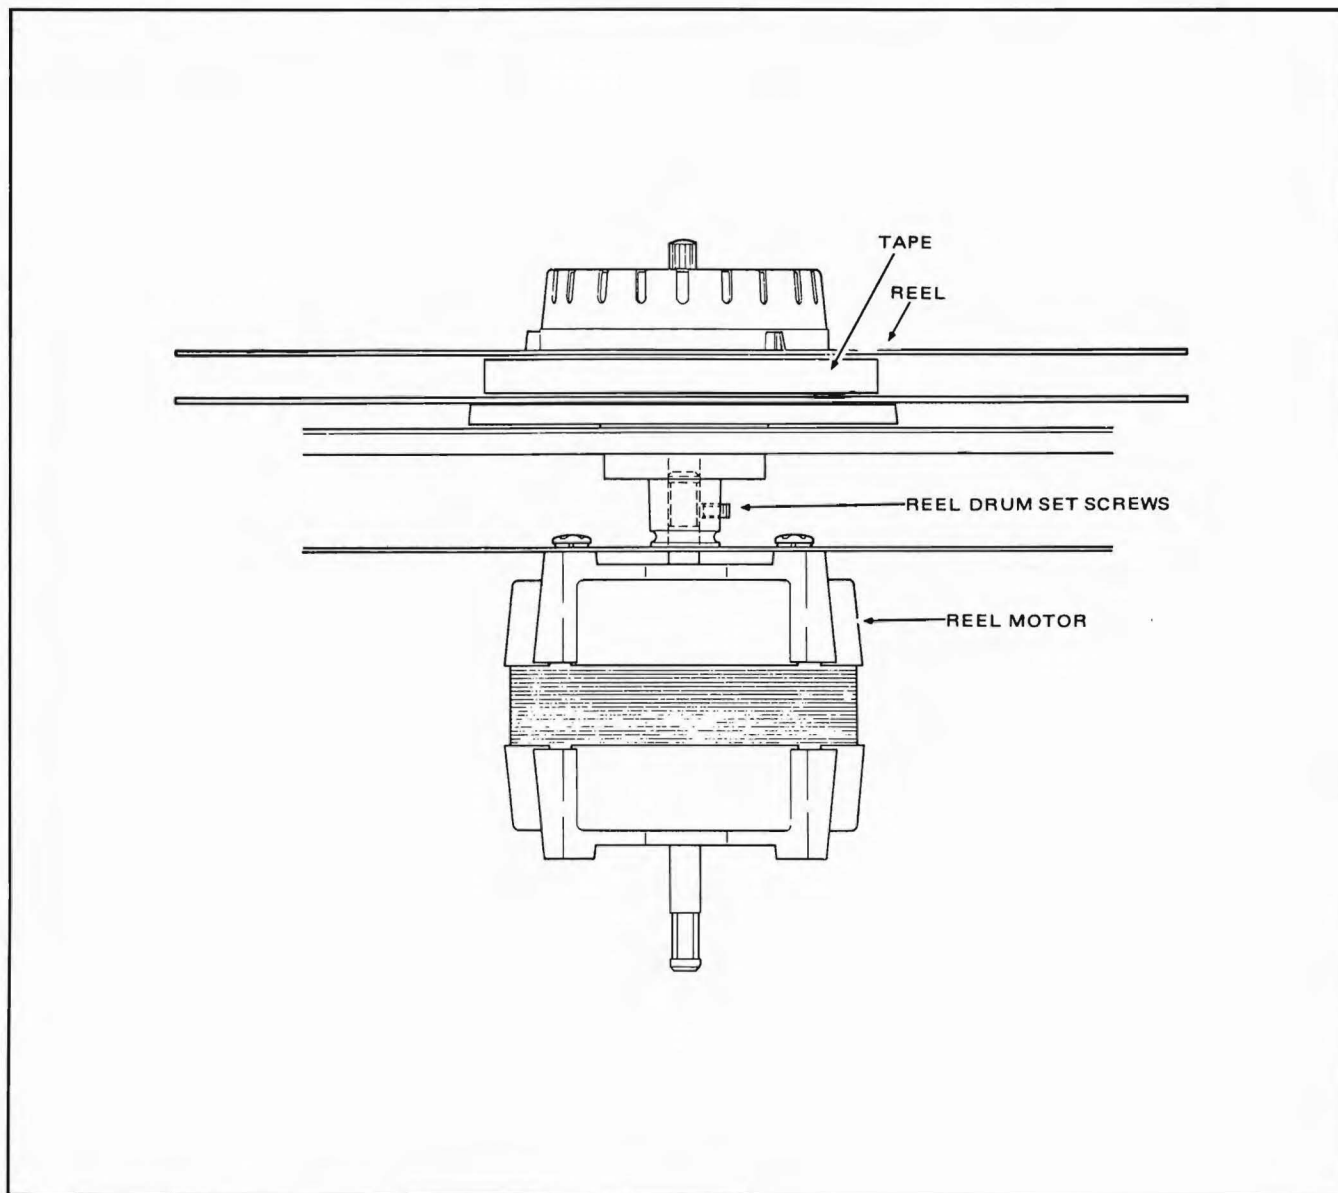

Figure 5-27. Reel Height Adjustment
- b. Refer to Figure 5-27, reach screwdriver through side of machine, and loosen the two Allen setscrews shown in the figure.